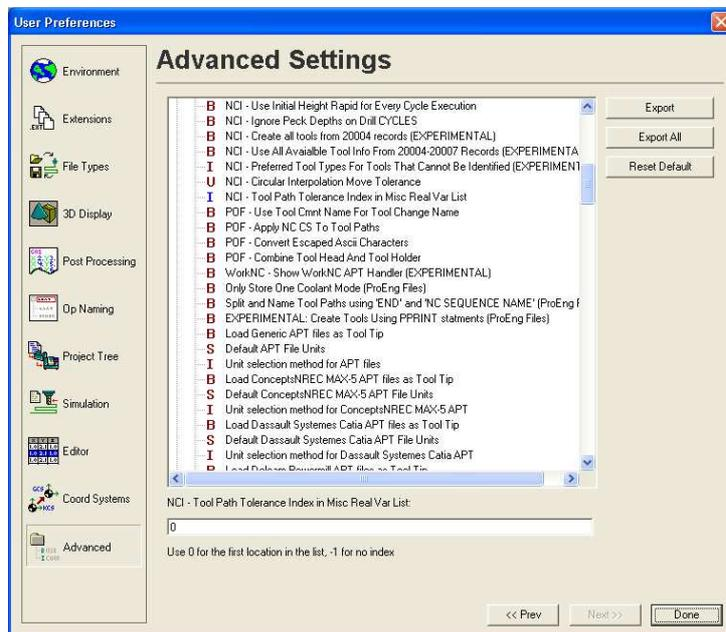

Figure 1: The User Preferences Dialog
- (1) Start the CAMplete TruePath application
- (2) Go to the **Tools** menu and select **Options**
- (3) Click **Advanced** and ignore the warning
- (4) Find the CAMFileOPref folder and open it (See figure 1)
- (5) Find the preference NCI - Tool Path Tolerance Index in Misc Real Var List
- (6) Set this to the index of the real parameter that you are using for the path tolerance